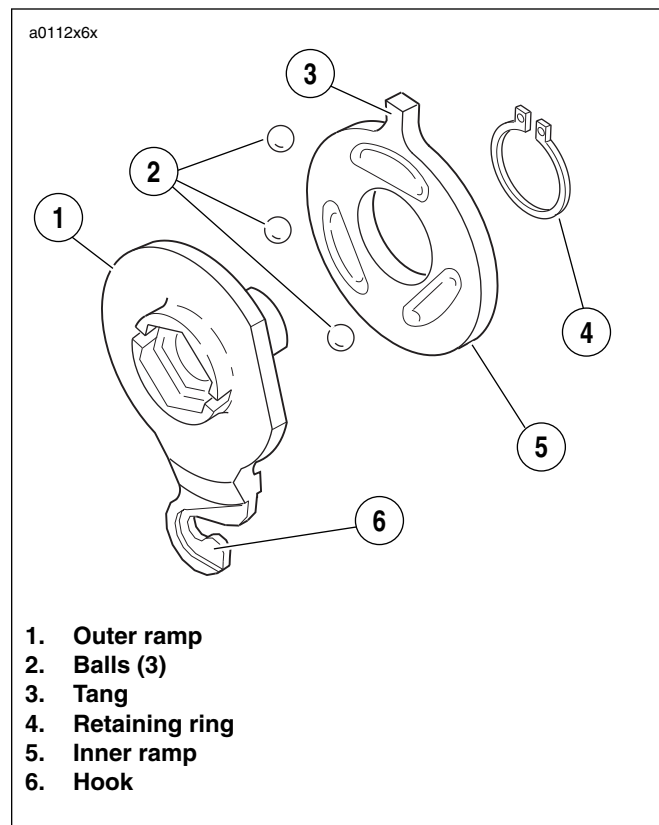

Figure 6-10. Inner & Outer Ramp
1. See Figure 6-10. Assemble inner and outer ramps.